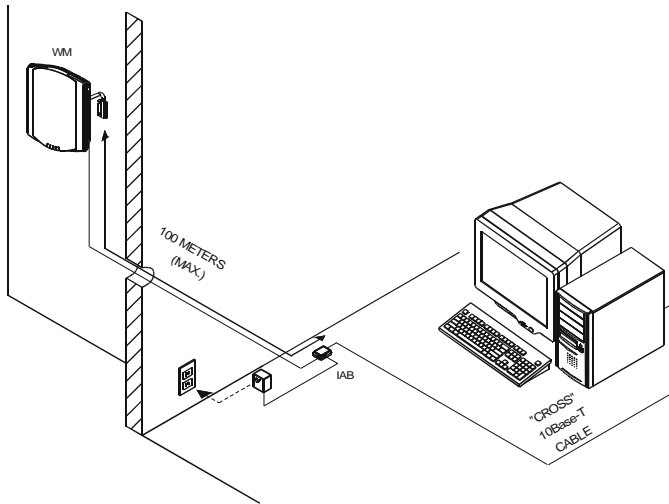

Figure 5-12 Connection to a Single PC
- For single user installation connect the Ethernet cable from the power/data adapter to a PC using a "cross-over" cable format, as shown in Figure 5-12.